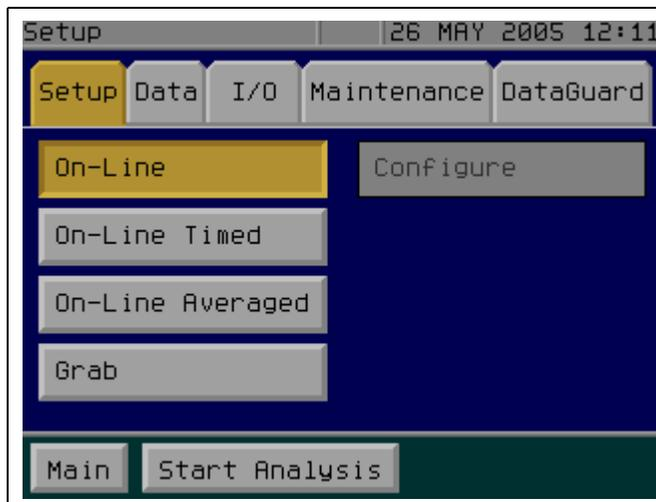

Figure 11: The Setup Tab
1. Select the **Setup** tab (see Figure 11).